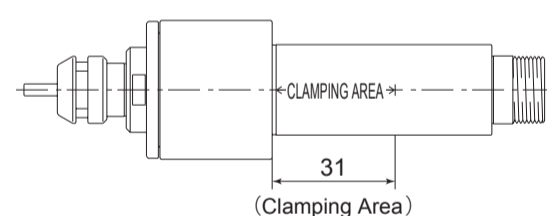

Fig. 11
- When mounting a Spindle, refer to the Clamping Area etched on the Spindle (Fig. 11).